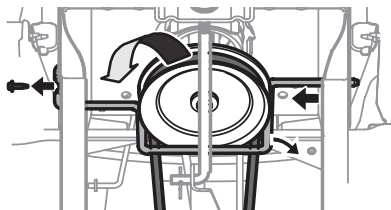

Figure 38
5. Remove the hex screw securing the engine pulley keeper rod to the frame. See Figure 38.